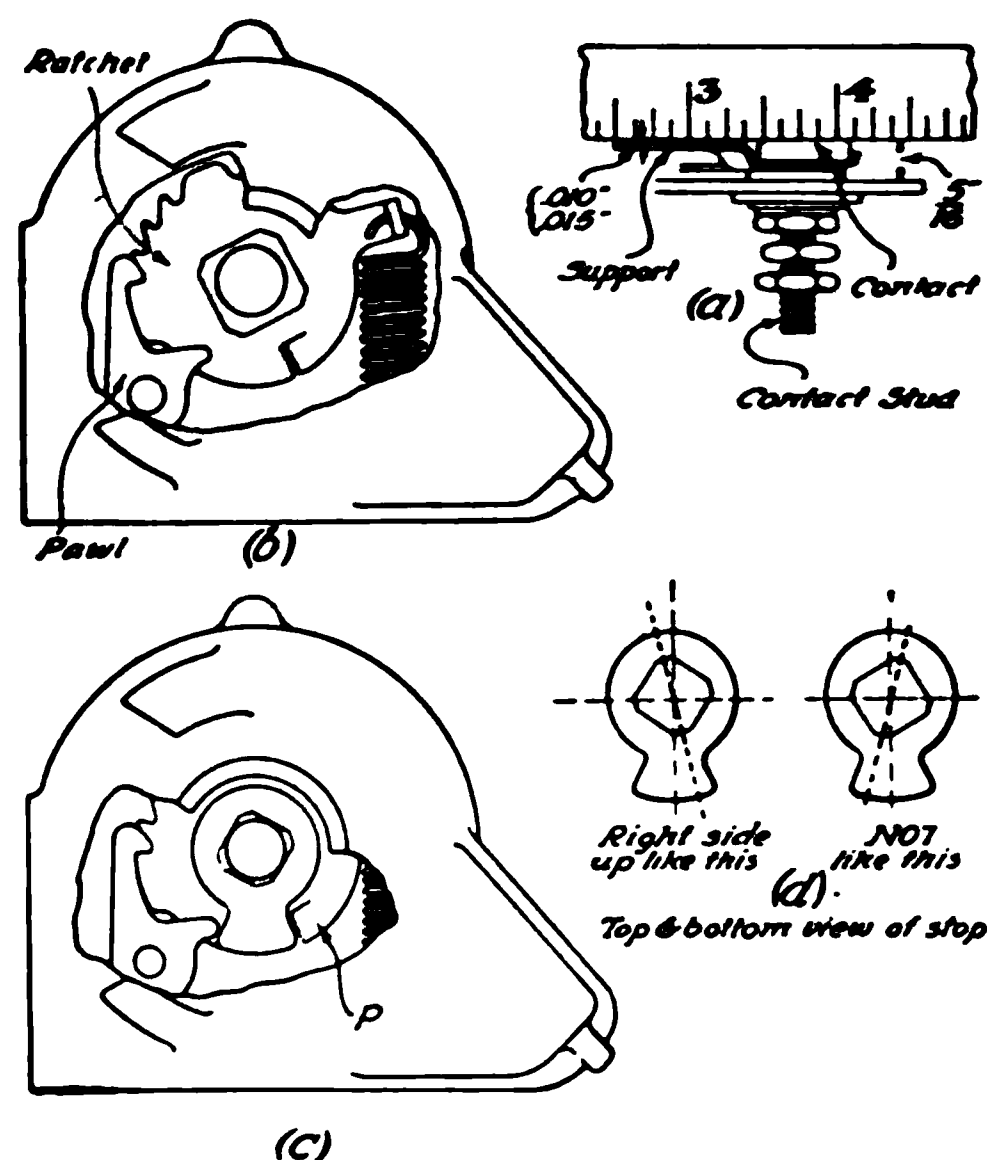

Fig. 307. Assembly of Starting Switch
The upper surfaces of the supports must be .010 to .015 inch lower than the contact surface of the block. Care should be taken that the upper surface of the contact blocks are  $\frac{5}{16}$  inch above the inner surface of the cover. A small steel straightedge laid upon the face of the contact block and extended over the supports, as shown in Fig. 307 (a), will serve as a means of checking these dimensions.
Before placing in service, the contact surfaces must be carefully cleaned and lubricated with a very small quantity of vaseline. To reassemble the switch: (1) Connect the spring 1813, Fig. 306, to the arm of the ratchet; (2) place the contactor member 2344 in the switch case in such a position that the ratchet will lie against the pawl 1830; and (3) hold the switch case in the left hand, lever side up, and insert the right forefinger through the hole in the switch case and introduce the pawl into the first notch of the ratchet, Fig. 307 (b); (4) hold these parts carefully in position and replace the cover 2404, Fig. 306, fastening it to the switch case by means of the three screws; (5) insert the stop through the hole in the switch case and replace it upon the ratchet plate in such a position that the elongated portion of the stop will lie between the raised projection which is found on the ratchet plate and the end of the short lever on the pawl as shown in Fig. 307 (c). It is very important that the stop be placed in the switch right side up, Fig. 307 (d) illustrating the proper method of doing this. (6) Place the spring on the shaft and replace the shaft in the switch, taking care while entering the shaft not to disturb the arrangement of any of the switch parts; (7) replace the collar and the cotter pin; and (8) connect the spring 2265 with the lug on the switch case. A drop of light oil should be applied to the bearing point at each end of the switch shaft 2401.